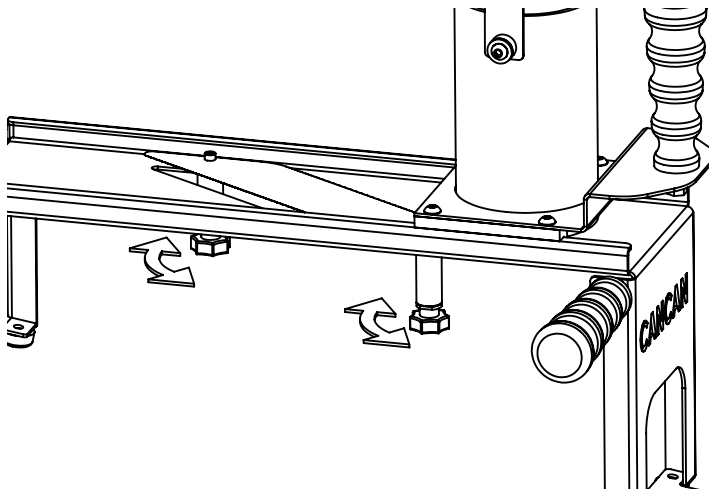

Figure 4.2.4
- Adjust the desired thickness by turning clockwise or counterclockwise. (If you turn it counterclockwise, you will reduce the thickness.) Turn the two bolts at a same range to ensure that every sides of the slice of the fruit/vegetable has equal thickness. (Figure 4.2.4)